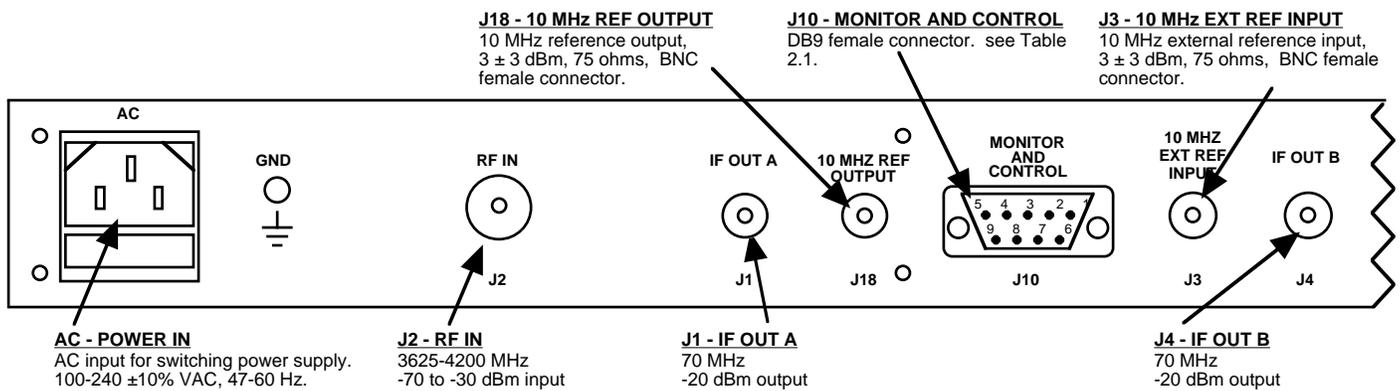

FIGURE 2.2 2016-37-140 Rear Panel I/Os
Figure 2.2 shows the input and output connectors on the rear panel.
1. Connect a -60 dBm to -20 dBm signal to RF IN, J2 (Figure 2.2).